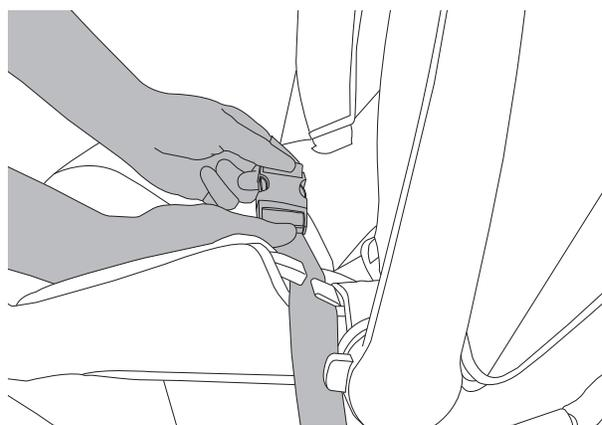

Figure 25
- Remove the carrier restraining straps from the pouches on both sides of the stroller. Buckle them in place over the LOWEST part of the carrier sides. Adjust the straps so they are tight around the carrier but AWAY from the child's neck. Pull up on the carrier to be sure it is held on securely. See Figure 25.